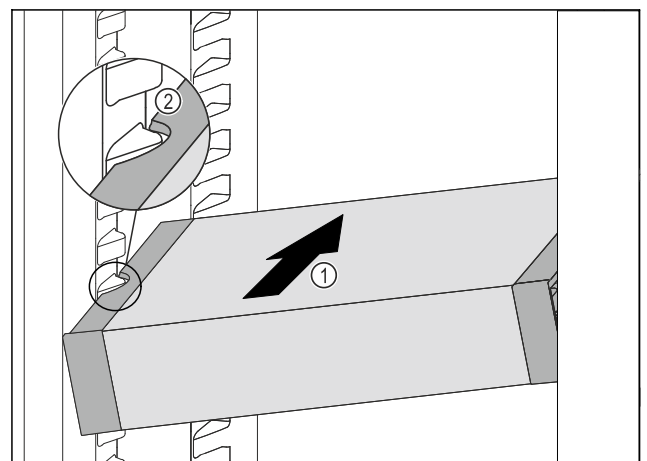

Fig. 95
- Insert the VarioSafe into the fridge section at an angle Fig. 95 (1) until the recesses in the side Fig. 95 (2) of the VarioSafe are at the level of the support rib in the fridge section.